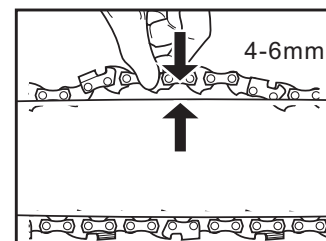
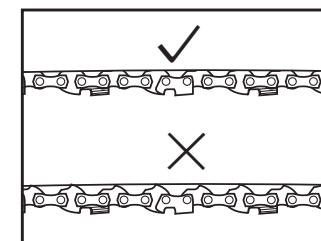

Fig. 15A
Fig. 15B
4. Check the tension level by pulling the chain 4-6mm away from the guide bar with light force (Fig.15A). Your chain is at the correct level of tension if there is no “sag” between the guide bar and chain. (Fig. 15B)